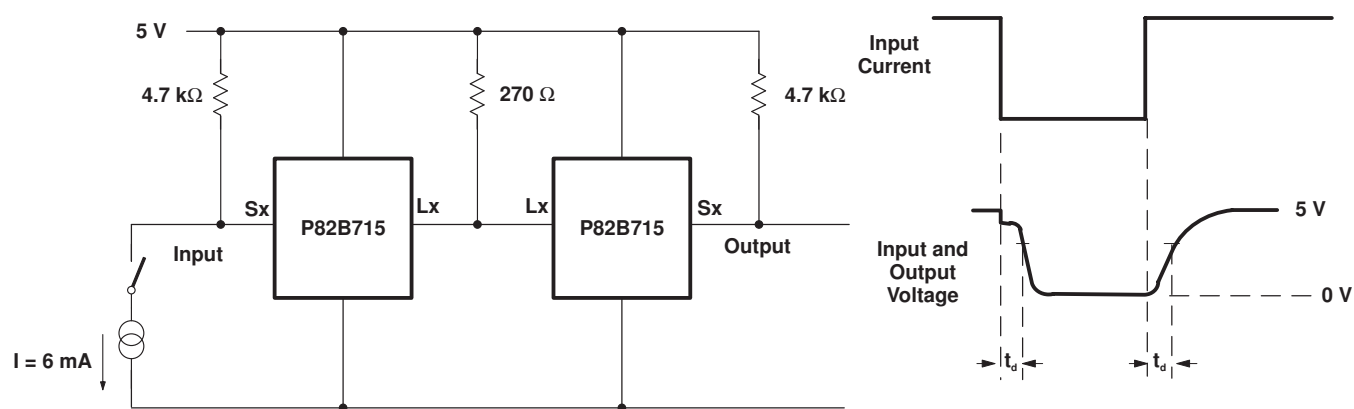

Figure 2. Test Circuit for Delay Times
- (1) A conventional input-output delay is not observed in the S_x/L_x voltage waveforms, because the input and output pins are internally tied with a 30-Ω resistor so they show equal logic voltage levels to within 100 mV. When connected in an I²C system, an S_x/S_y input pin cannot rise/fall until the buffered bus load at the output pin has been driven by the internal amplifier. This test measures the bus propagation delay caused to falling or rising voltages at the L_x/L_y output (as well as the S_x/S_y input) by the amplifier's response time. The figure given is measured with a drive current as shown in Figure 2. Because this is a dynamic bus test in which a corresponding bus driving IC has an output voltage well above 0.4 V, 6 mA is used instead of the static 3 mA.
- (2) The signal path L_x to S_x and L_y to S_y is passive via the internal 30-Ω resistor. There is no amplifier involved and essentially no signal propagation delay.